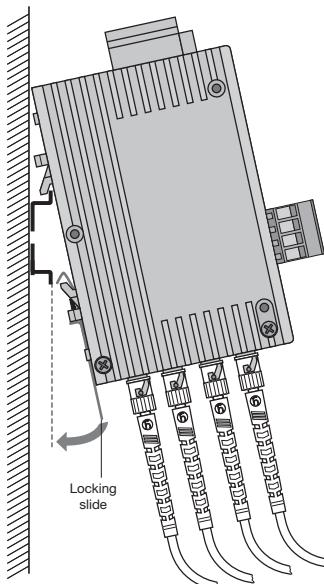

Fig. 6: Mounting repeater on DIN rail
- Insert the upper snap-in hooks of the repeater into the DIN rail and press the underside (as shown in Fig. 6) onto the rail until it engages.